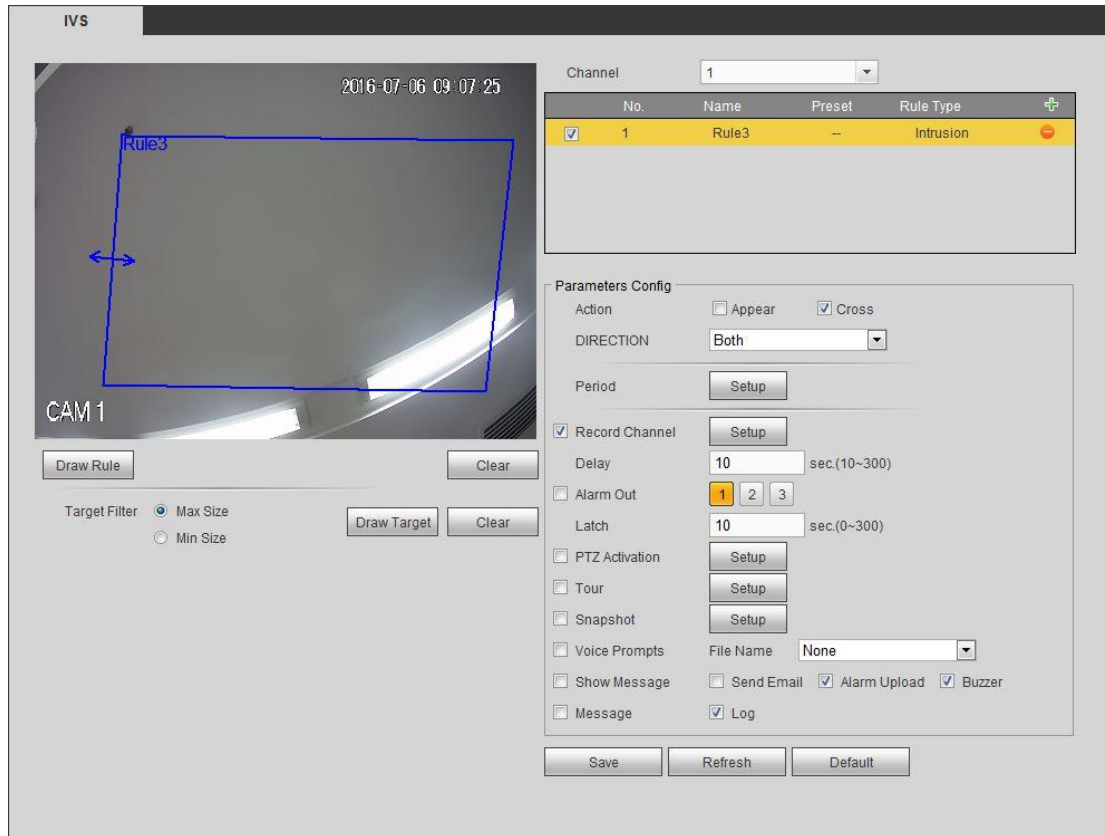

Figure 5-87
Step 3 Click Draw rule button and then left click mouse to draw an intrusion rule. Right click mouse to complete. See Figure 5-87.